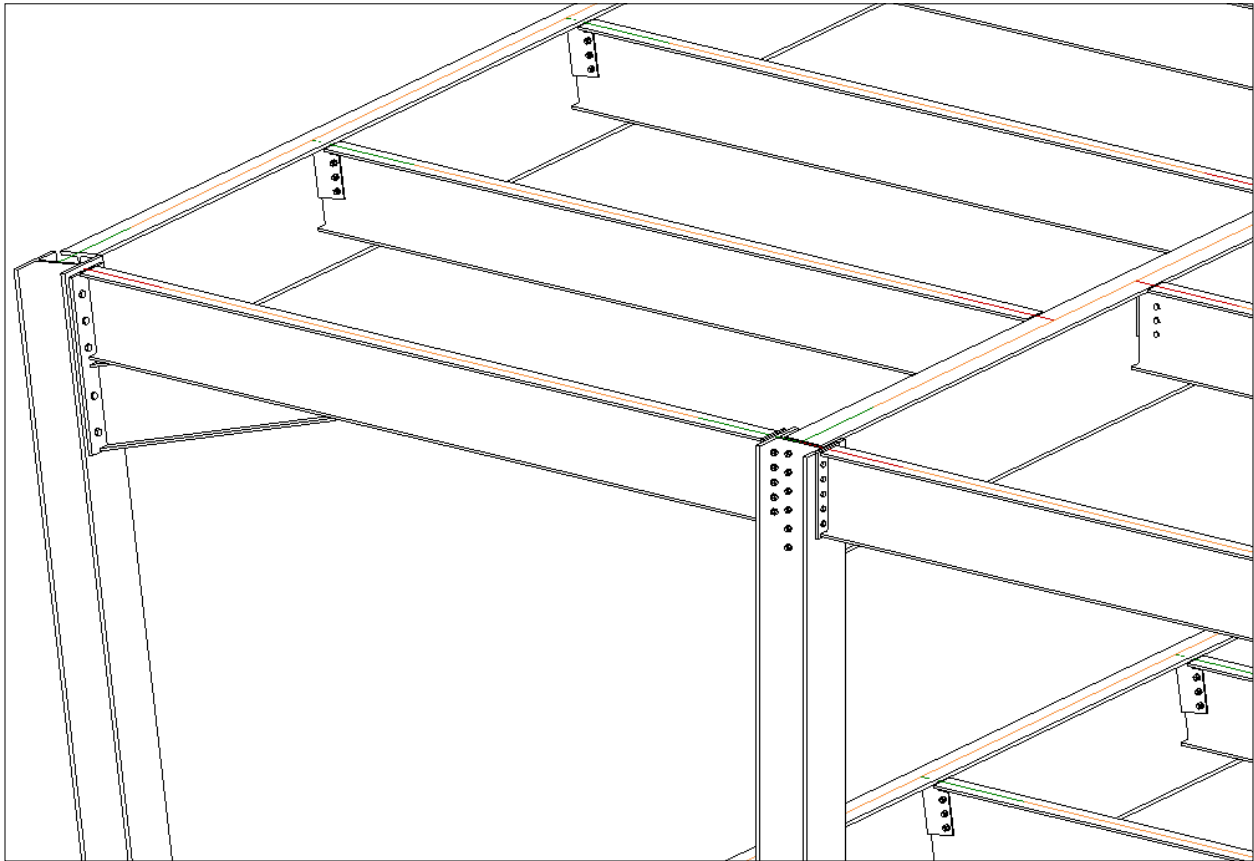

FIGURE 40: THE ZOOMED IN VIEW OF THE AUTODESK REVIT MODEL WITH CONNECTIONS
4. Select the status of all the connections and click **Apply All Actions**; all the changes will be applied to the Autodesk Revit model. Figure 40 shows the zoomed in view of the model with some connections.